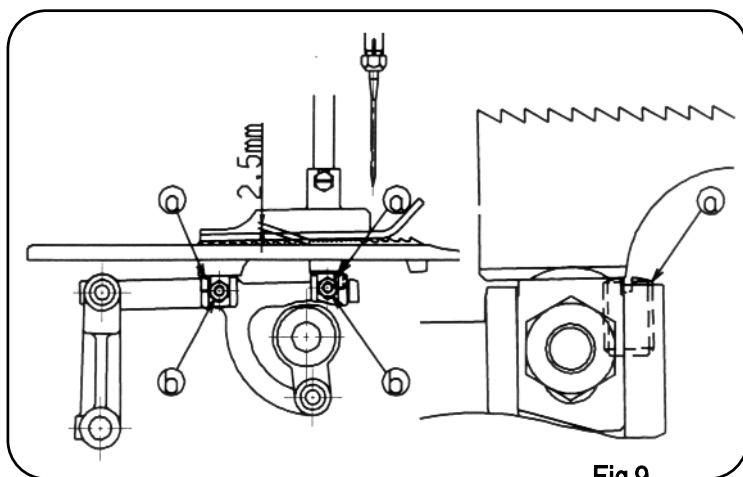

Fig.9
- Adjust the height of the feed dog so that it protrudes 2.5mm from the upper surface of the throat plate when the feed dog has risen to the highest position, as shown in (Fig.9). If the feed dog is higher than this, stitch will not chain satisfactorily, and if it is lower than this, the stitch width will be too small. Slacken nut **b** with a box spanner to adjust the height of the Feed Dog. It is important to adjust the height with set screw **a** to ensure that the pressure from the Pressure Foot should not force it back down. Tighten nut **b** when the adjustment is correct.
- 送り金(前)の高さは、送り金が最も上がったとき、針板上面から2.5mm出るように調整します。(Fig.9)